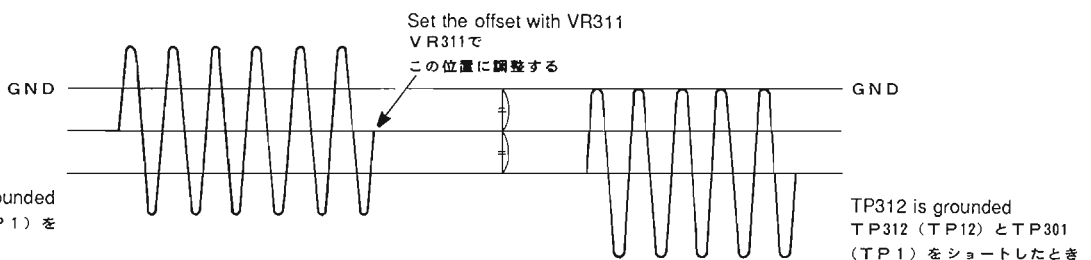

Fig. 5
- Note the DC center level of waveform at TP306 (oscilloscope CH1, refer to figure 5).
- Using VR311 adjust DC center of waveform to half of that noted in item 7 (refer to figure 5).
- TP306の波形のDCセンターずれが⑥でメモした値の1/2となるようにVR311で調整する。(Fig. 5)